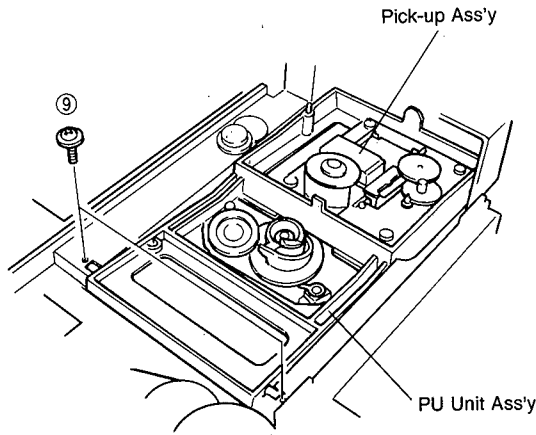

Fig. 3
- ② Clamp the disc by using the stabilizer.
- ③ Set to the TEST mode and check for any faulty conditions.
- a. Remove 2 screws (⑨) and then remove the PU Unit Ass'y in Fig. 3.